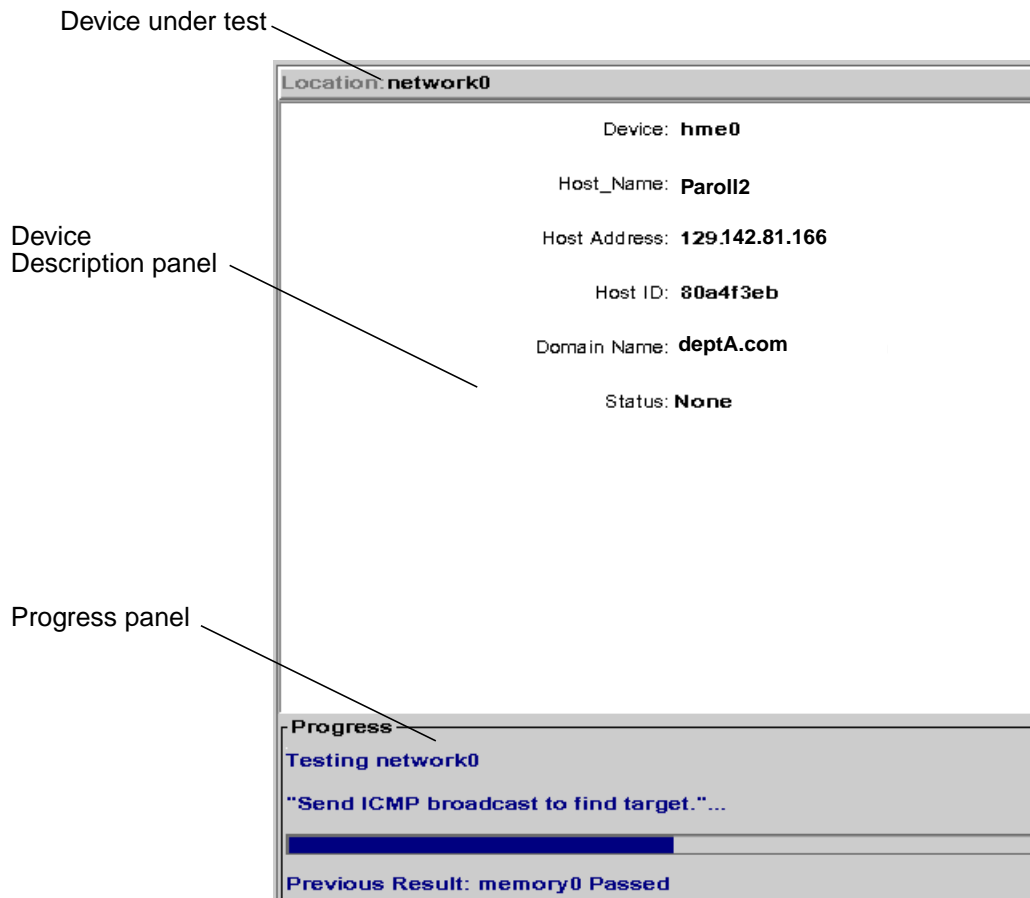

FIGURE 3-5 Device Description Panel and Progress Panel
1. View the progress of each test as it runs (FIGURE 3-5).